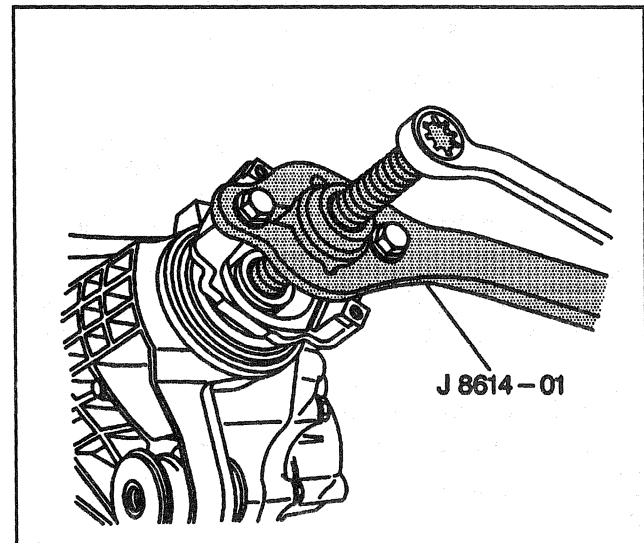

Figure 17—Removing/Installing the Pinion Flange
3. Flange using J 8614-01 (Figure 17).
Install or Connect (Figures 17 and 18)
3. Flange onto the pinion using J 8614-01 (Figure 17).